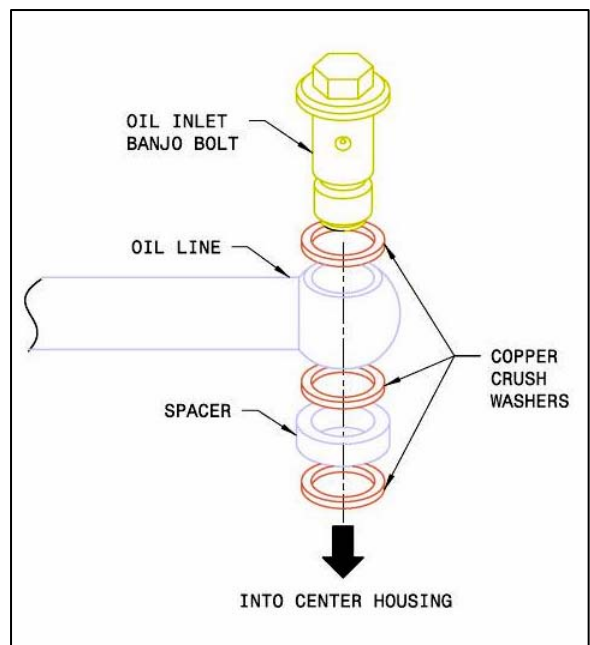
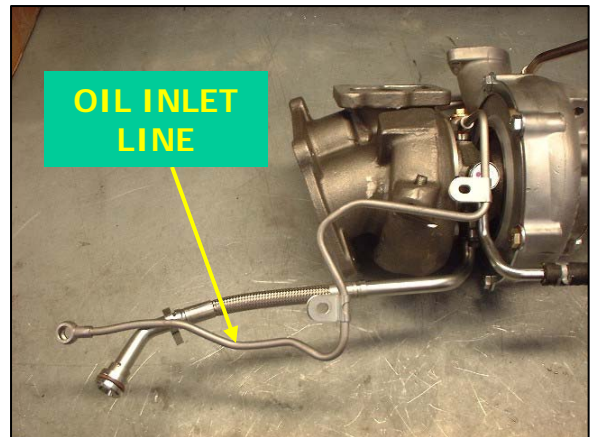

Fig. 33
Fig. 34
36. Install the OE oil feed line onto the top of the Garrett turbo center housing. Use the new banjo bolt supplied in the kit, along with the short steel spacer and the **three** new 12mm copper crush washers. Order of assembly on bolt: 1st washer, oil line, 2nd washer, spacer, 3rd washer. The bolt, together with washers, spacer and oil line, is then installed into the center housing. Ensure that the crush washers stay centered and are not jammed by the bolt or spacer during installation. Snug the banjo bolt (do not tighten) so that the oil line can be adjusted on the vehicle. Bolt will be tightened later in step 43. See figure 33 for assembly order. See figure 34 for approximate orientation on turbocharger.
(Figure 34 shows approximate orientation of oil inlet line on turbocharger. Do not tighten inlet bolt yet; oil line will need to be adjusted once turbocharger is installed on vehicle)